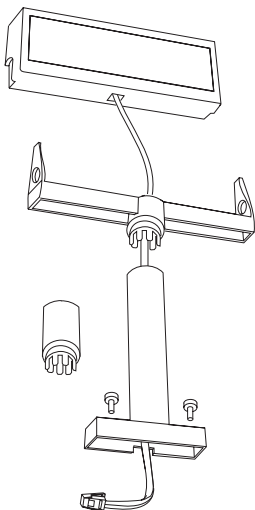

Figure 33. Attaching the distributed customer display cable
- a. Route the distributed customer display cable through the mounting post (and post extension, if used) and plug the cable into the display, as shown in Figure 33.